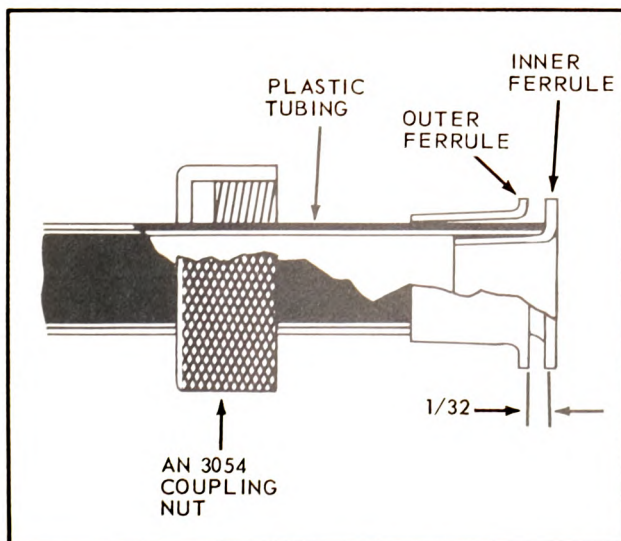

Figure 9-23. Installing Two-Piece Ferrules on
d. Move female ferrule toward end of conduit over male ferrule, until the ferrule flanges are a maximum of 1/32 inches apart as shown in Figure 9-23.